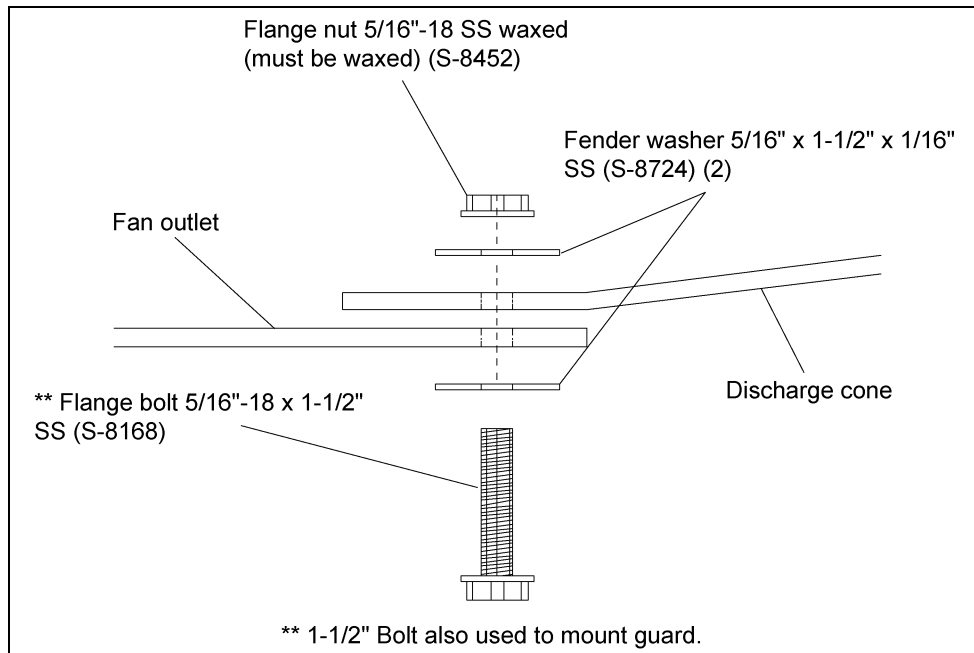

Figure 9C
See cone mounting detail in Figure 9C below. Place the cone on the fan leaving a 2" overlap. Mark the nine (9) holes around fan orifice. Remove cone and drill 7/16" holes where marked. Mount the cone using the 1-1/2" bolts, fender washers and flange nuts. Tighten all hardware including cone panels.